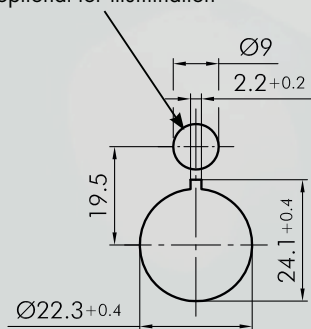

Fig. 2: mounting hole for emergency stop (22mm)
- 2) For actuators with illuminated protective shroud provide a second hole following the relative assembly drawings in the catalogue (Fig.2).
- 9) For actuators with illuminated collar put the plug for lighting through the relative hole in the mounting plate and connect it to the actuator. (Fig. 2 and 3a)